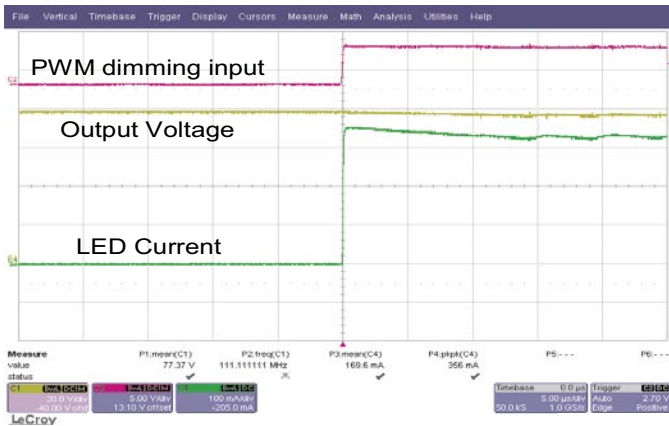

**Fig. 8 Short Circuit Condition**
**Short Circuit Protection:** Figs 8 and 9 show the operation of the short circuit protection in the HV9912DB1. In Fig. 8, the onset of the output short circuit is indicated by the first spike in the LED current. At this point, the HV9912DB1 shuts down and the hiccup mode protection takes over. A constant current source charges the COMP pin to 5.0V and then another current source discharges it to 1.0V. This charge/discharge cycle determines the hiccup time. When the COMP pin reaches 1.0V, the converter attempts to restart and finding the fault condition still present, shuts down again.